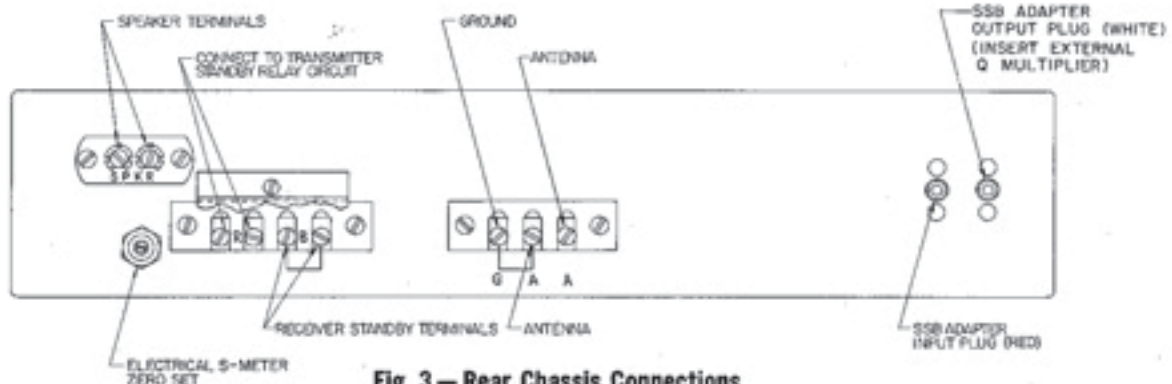

Fig. 3 — Rear Chassis Connections
The lower left connector strip is normally connected with B jumper (See Fig. 3) when it leaves the factory. The receiver will not operate without this circuit being closed either with the jumper as shown or with another closed circuit, such as a pair of closed switch or relay contacts. The receiver is muted by opening this circuit.
Two jacks are provided on the right-hand side of the rear chassis (See Fig. 3) for quick and complete interconnection of the RME 4350A receiver and the RME 4301 single sideband selector. The jacks are color coded as are the plugs on the sideband selector and should be mated for color when interconnecting. The "red" jack is an audio input circuit connection and the "white" jack is the IF input circuit connection to the selector from the receiver. The schematic diagram shows the exact circuitry.
Next connect the RME 4202 speaker or a suitable substitute with 4-ohm voice coil to the speaker terminals (See Fig. 3). The power supply plug may now be plugged into the source (117 V—50/60 cycle AC). Now connect a suitable antenna, (See preceding page) and rotate RF-gain control to full clockwise position. After a minute or so, set stand-by switch to "Rec" and the receiver will come to life as evidenced by atmospheric background noise and/or signal. The S-meter should read around "0" if no signal is being received and if ambient electrical noise is not unusually high. If the meter reads up without signal and in the absence of abnormal noise, disconnect the antenna momentarily, switch band selector to 28 mc band and with controls maintained in the suggested position (especially max. clockwise for RF gain), set the S-meter to "0" by means of the meter balance control (C) on the rear apron of the chassis (See Fig. 3). When this has been done, the antenna may be reconnected and the band selector switch restored to a desired frequency band.